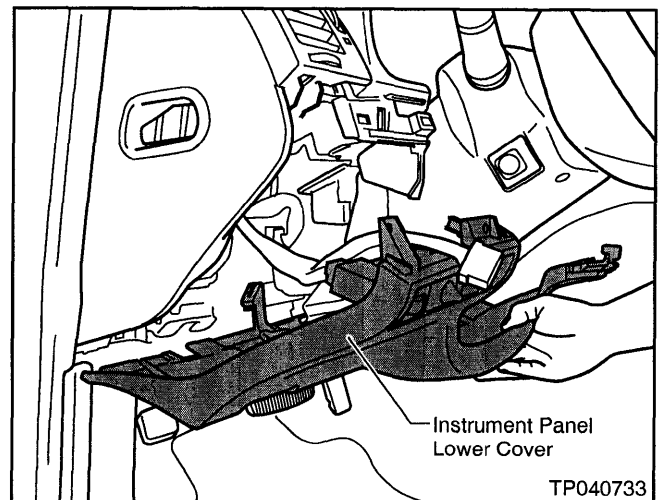

Figure 13
- f. Remove the Instrument Panel Lower Cover by pulling out (towards the rear of the vehicle). See Figure 13.